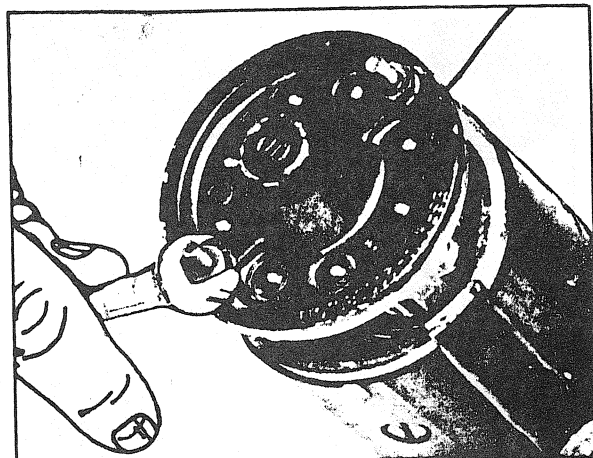

FIGURE 5
- Unscrew the through bolts then lay them aside (Fig. 5).